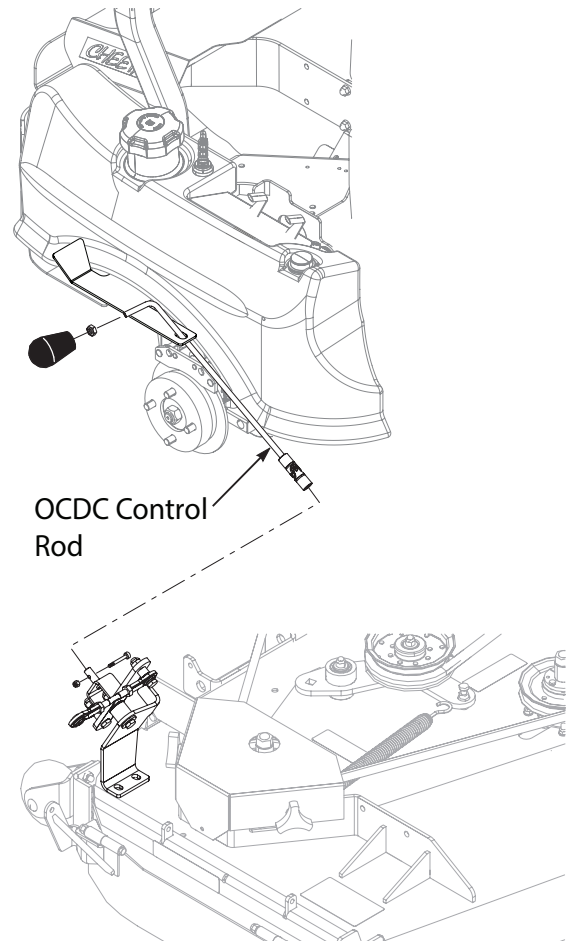

Figure 3-27. OCDC Control Lever Installation
3. Install the OCDC control rod through the handle bracket and attach to the OCDC pivot bracket. Secure the OCDC control rod to the pivot bracket using one (1) #8-32 x 1-1/4" screw and one (1) #8-32 elastic stop nut. See Figure 3-27. Tighten the hardware.
4. Install the jam nut and the OCDC handle knob to the control rod. See Figure 3-27. Tighten the jam nut.